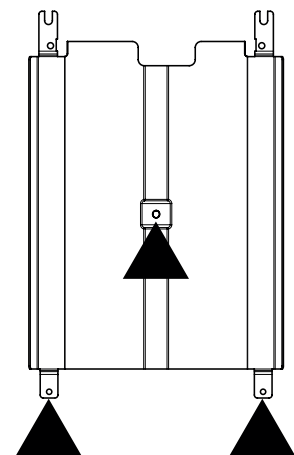

Figure 14b
- The flame spreader is attached with two tabs or shoulder brackets and secured with three screws. Remove The screws, slide flame spreader back, and lift the spreader out of the oven cavity (see Figure 14b).